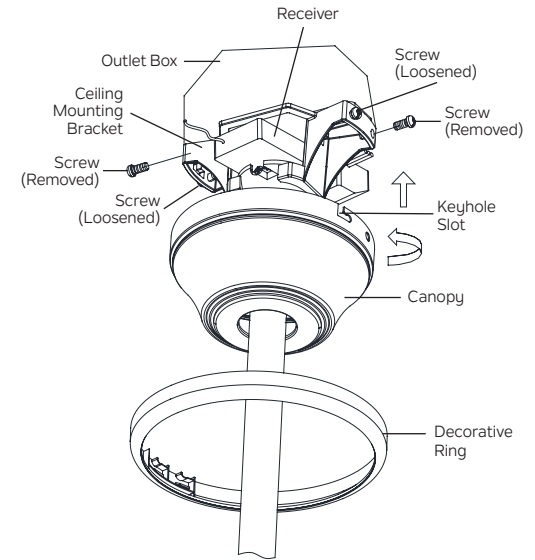

Fig. 15
Step 2. At the top of the ceiling mounting bracket, there are 4 preinstalled screws (2 on each side). On each side of the ceiling mounting bracket, loosen the first (left) screw just enough so that the screw will be able to lock into a “keyhole” slot in the canopy. Remove the second (right) screw. **(Fig. 15)**
Step 4. Reinstall the 2 screws that were removed into the aligned holes in the canopy and the ceiling mounting bracket. Tighten all 4 screws to secure. **(Fig. 15)**